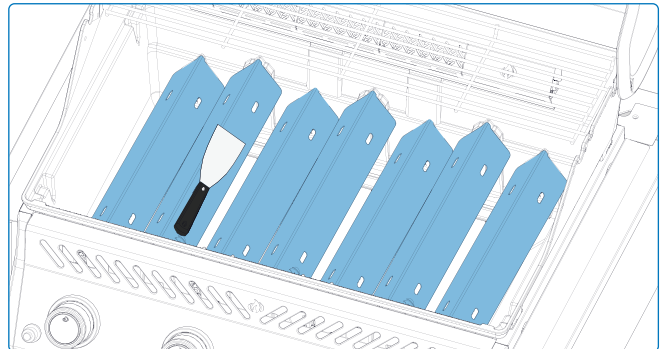

Fig. 9
- Light the burner and operate on high for 5–10 minutes to remove any leftover residue (**Fig. 9**).